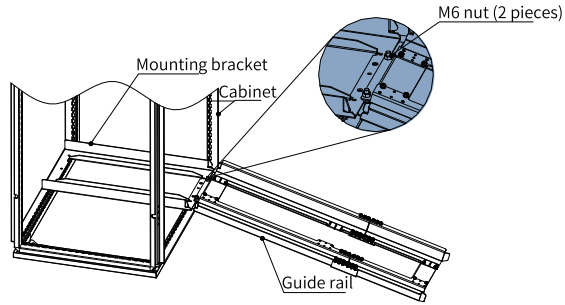

Figure 5-9 Mounting the guide rail assembly to the cabinet
b. Align the two round holes on the front end of the guide rail assembly with the screws of the mounting bracket, and lock them with two M6 nuts to mount the guide rail assembly to the cabinet, as shown in "Figure 5-9 " on page 100 .